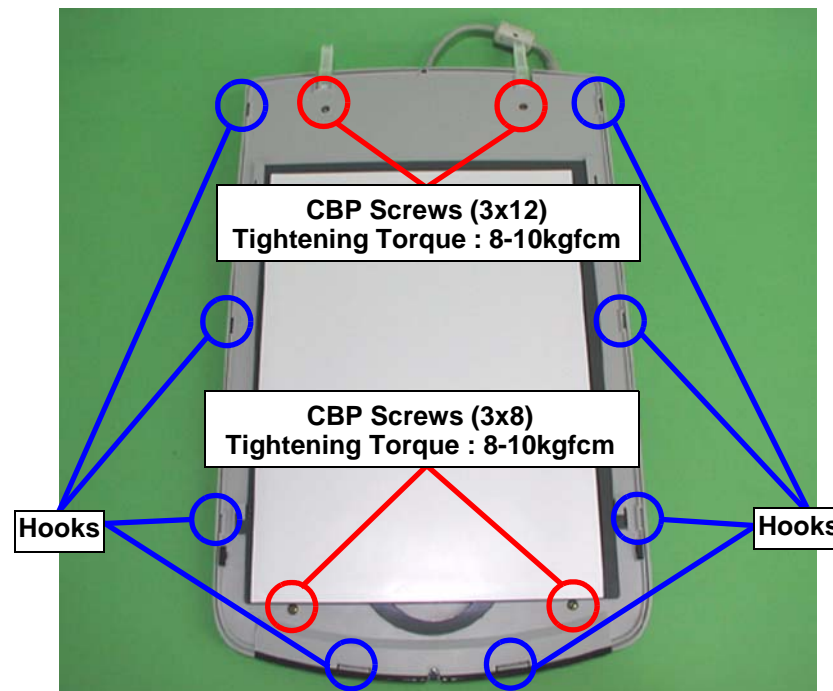
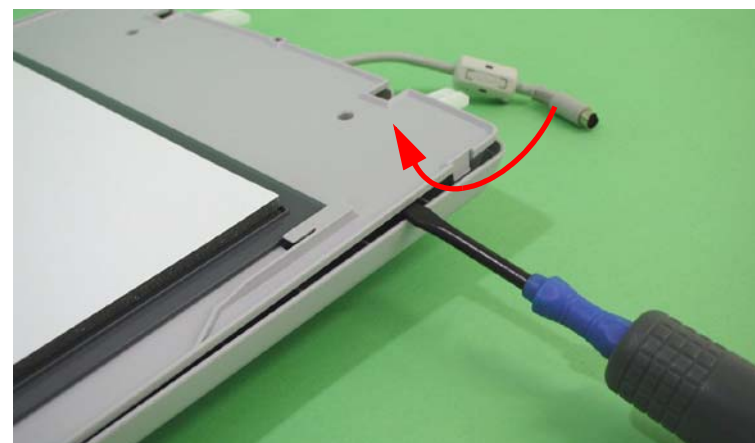

Figure 4-37. TPU Removal (1)
Figure 4-38. TPU Removal (2)
2. Remove the two screws (CBP, M3x12) and the two screws (CBP, M3x8) on the underside of the document cover. (See Figure 4-37)
3. Disengage the eight hooks, and then remove the TPU lower housing. (Insert a (-) screwdriver or similar and lift up.) (See Figure 4-37 and Figure 4-38)